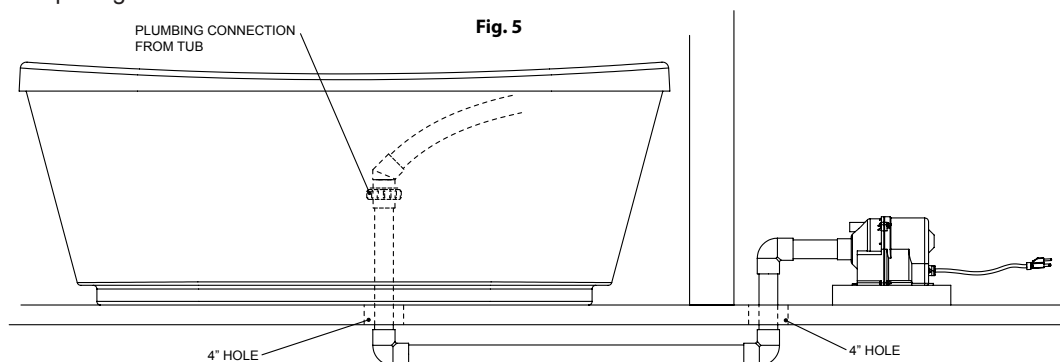

Fig. 5
- 1 Determine the locations for the blower and verify that access to blower and airline fittings will be possible after bathtub is installed. Blower location must be within 10 feet of the tub with no more than three elbows as illustrated (Fig. 5).